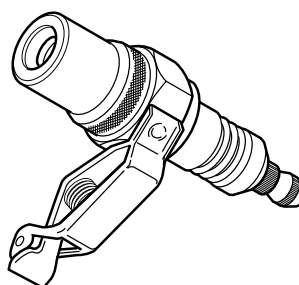

Figure 4-30. Spark Tester
- See Figure 4-30. A SPARK TESTER (Part No. HD-26792) must be used to verify adequate secondary voltage (25,000 volts) at the spark plug.